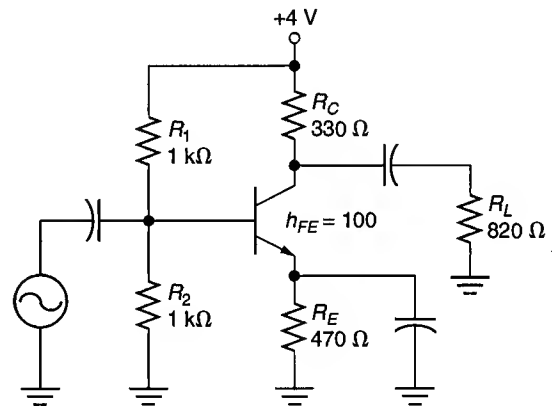

FIGURE 11.49
4. Calculate the compliance of the amplifier in Figure 11.49. Determine the type of clipping that the circuit would be most likely to experience.
14. Determine the values of P_S , P_L , and efficiency for the amplifier in Figure 11.49. Assume that the circuit is driven to compliance.
40. Calculate the value of P_D for the transistor in Figure 11.49.